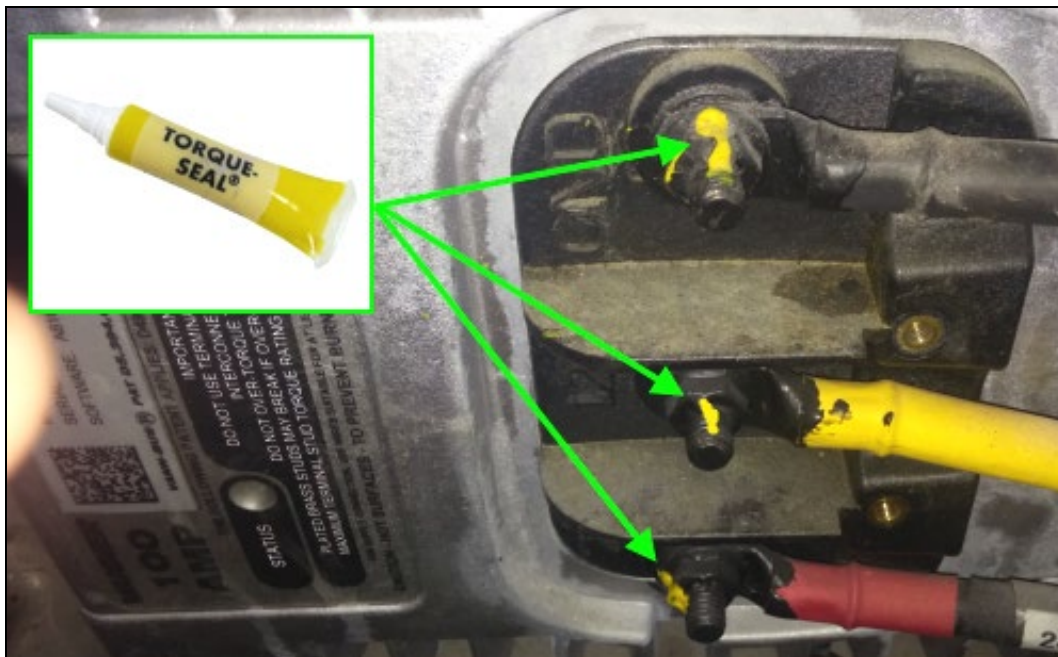

Fig.12 Torque Seal inspection lacquer application
12. Apply a small amount of yellow torque seal inspection lacquer over the dried terminal posts (Fig.12).